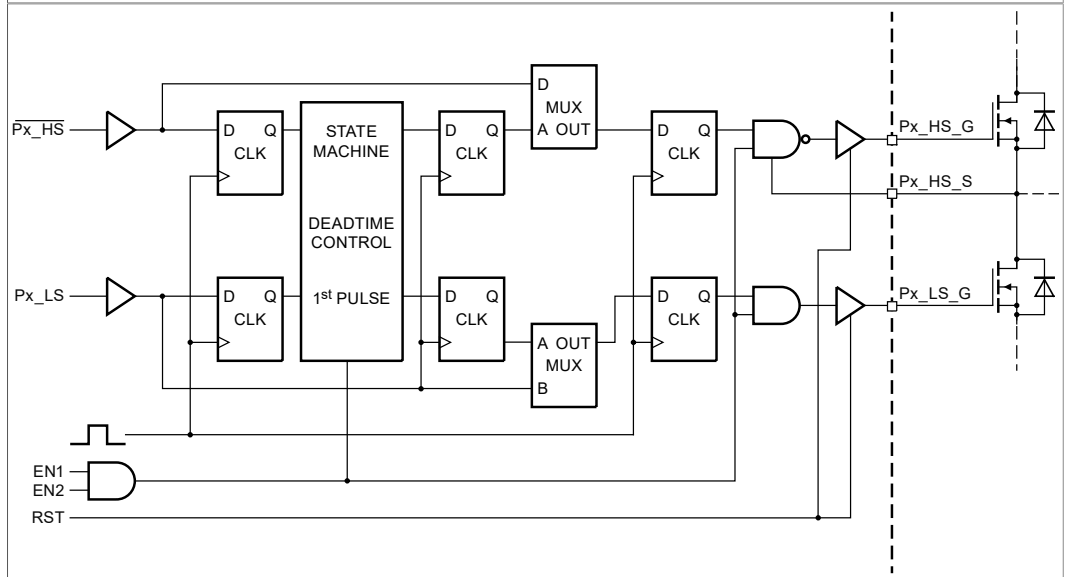
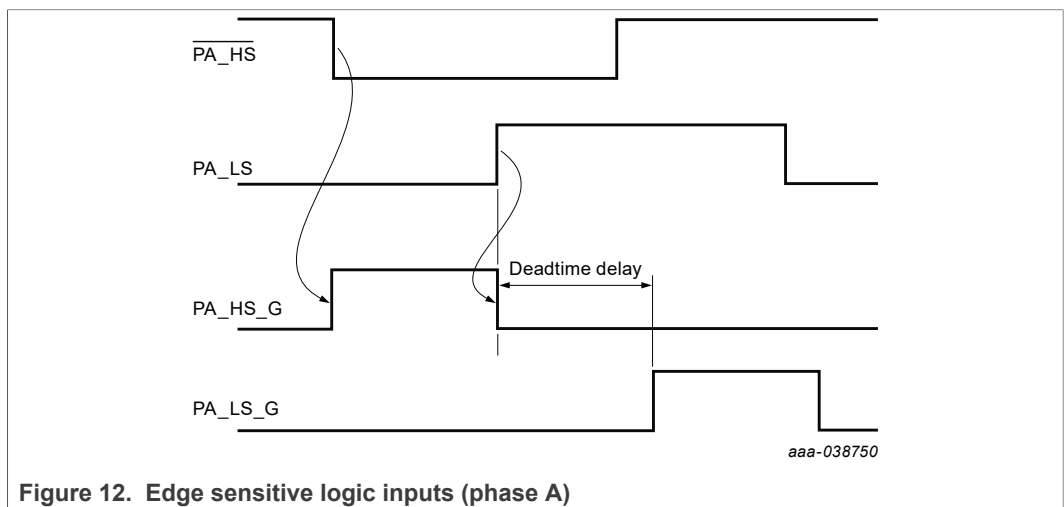

Figure 5. Deadtime control delays
Figure 12. Edge sensitive logic inputs (phase A)
- [6] These delays include all logic delays except deadtime. All internal logic is synchronous with the internal clock. The total delay includes one clock period for state machine decision block, an additional clock period for FULLON mux logic, input synchronization time and output driver propagation delay. Subtract one clock period for operation in FULLON mode which bypasses the state machine decision block. Synchronization time accounts for up to one clock period of variation. See Figure 5.
The $\overline{Px_HS}$ and Px_LS logic inputs are edge sensitive. This means the leading edge on an input causes the complementary output to immediately turn off and the selected one to turn on after the deadtime delay as illustrated in Figure 12. The deadtime delay timer always starts at the time a FET is commanded off and prevents the complementary FET from being commanded on until after the deadtime has elapsed. Commands to turn on the complementary FET after the deadtime has elapsed are executed immediately without any further delay. See Figure 5 and Figure 12.